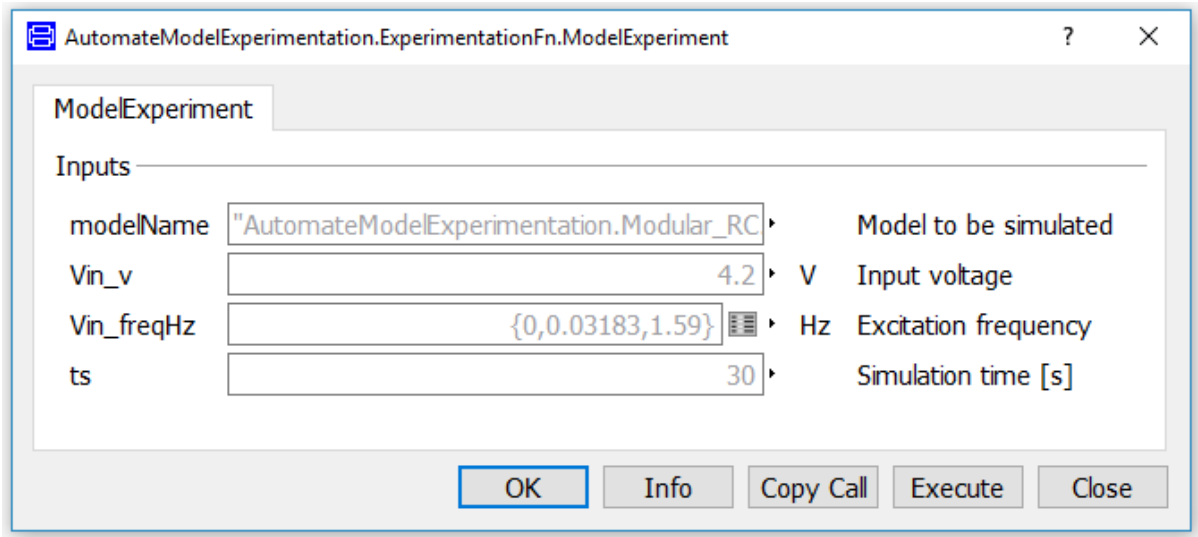
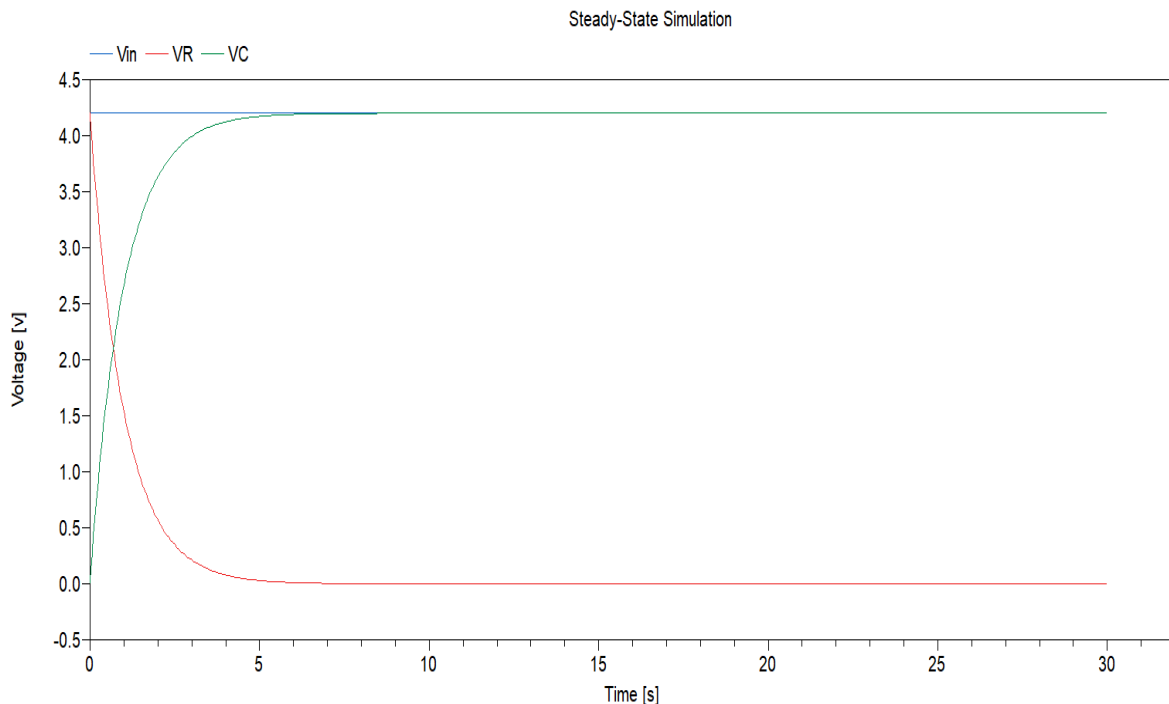
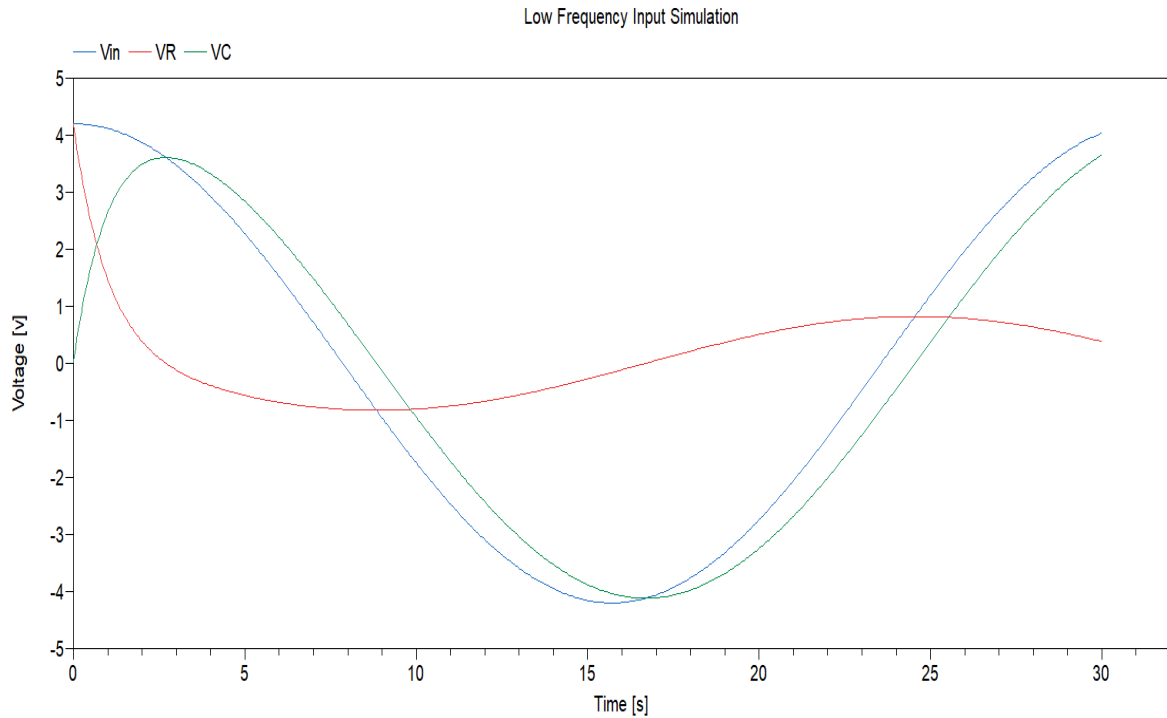
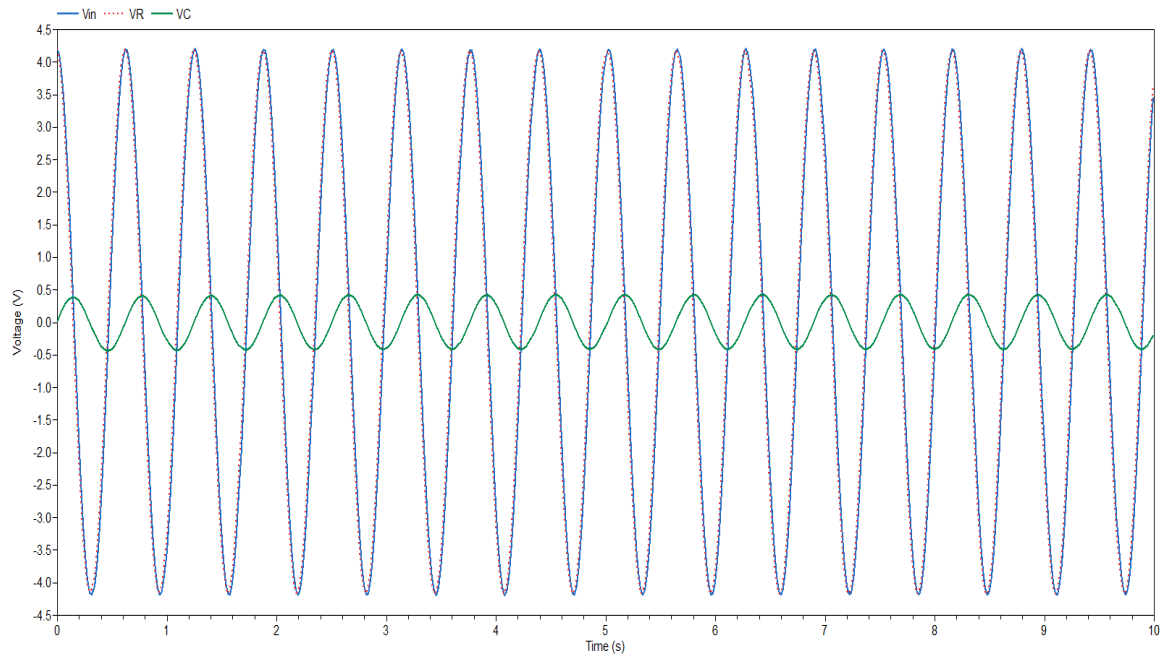

Figure 3- Dialog box of the ModalExperiment function.
Figure 4- Steady-State simulation plot of the modified RC model.
Figure 5- The voltage response of RC circuit at a very low excitation frequency of 0.2 rad/s or 0.03183 Hz.
Figure 7- The High-frequency input simulation copied from [7].
In Figure 2, the automation process begins with Stage 1: defining or selecting an existing Modelica model within Dymola. In our case, this model is the modified RC circuit mentioned in the previous section. This step is also shown in the first input field **modelName** of the ModelExperiment function dialog in Figure 3.
- 1) The user can define or change the input parameter values. Figure 3 also represents this Initial Setup stage, which includes three input fields that can be modified later: Vin_v, Vin_freqHz and ts.
The plot windows generated after the execution of the ModelExperiment function are shown in Figures 4, 5 and 6. For illustrating the discrepancy mentioned in the last paragraph, Figure 5 from [7] is also shown in Figure 7.
Both Figure 4 and 5 match with Figure 3 and 4 in [7] for a simulation time of 30 s. Please note that physics of this model and the plots shown from Figure 4 to 6 are beyond the scope of this article. Those who are interested in getting more insight into the physics of the model can refer to [7].